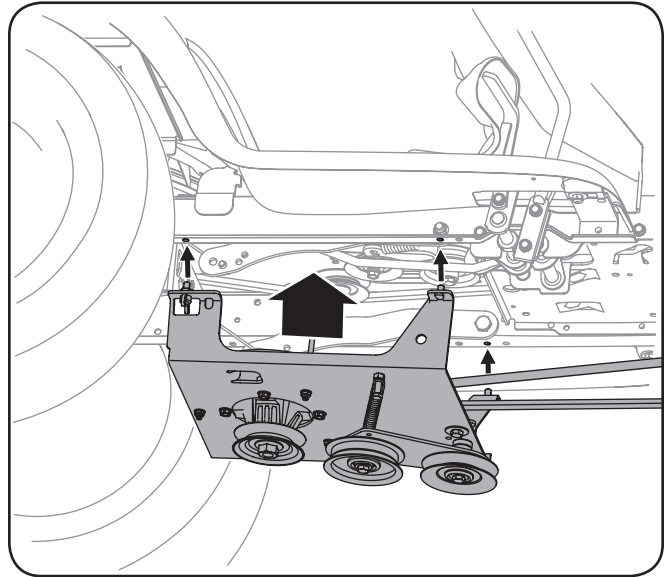

Figure 3-5
3. Place the undercarriage assembly beneath the tractor and lift it up against the frame of the tractor. See Figure 3-5.